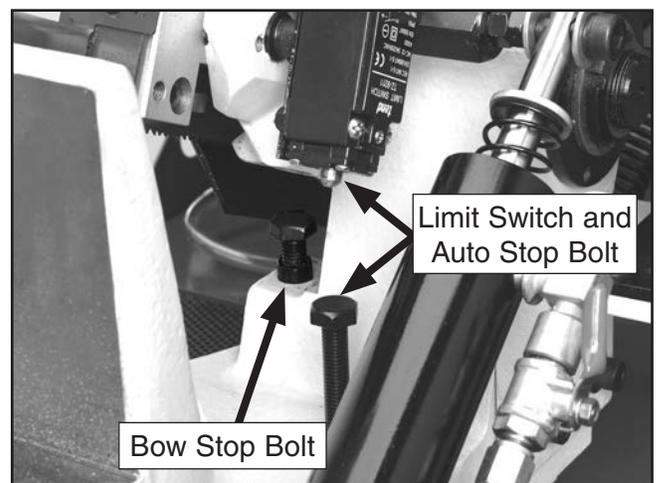

Figure 48. Auto stop.
- Adjust the auto stop bolt and the bow stop bolt (**Figure 48**), so the bandsaw motor will stop when the blade teeth are just below the vise table surface.